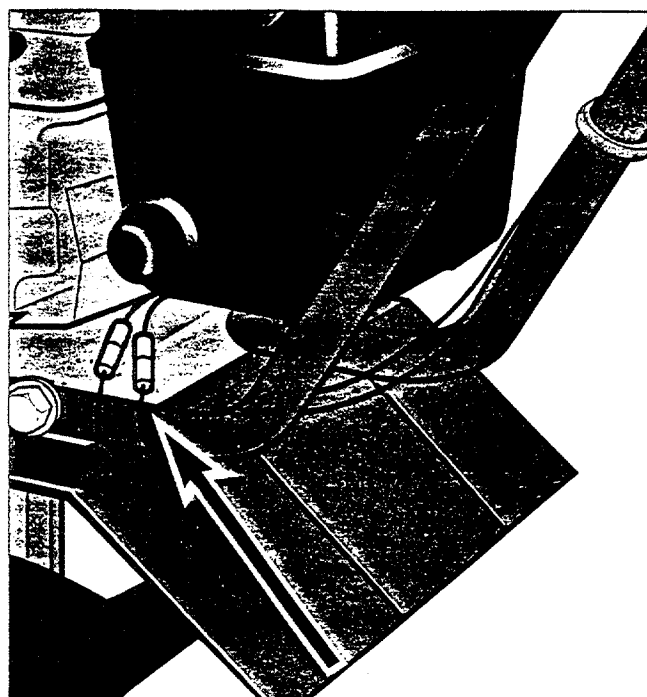

Figure 8: Snap together the two sets of wires having the same connector colors.
17. Connect the loose ends of these two wire leads to the two loose wires shown in Figure 8. Plug the matching color connectors together. Red connector to red connector, and white connector to white connector.